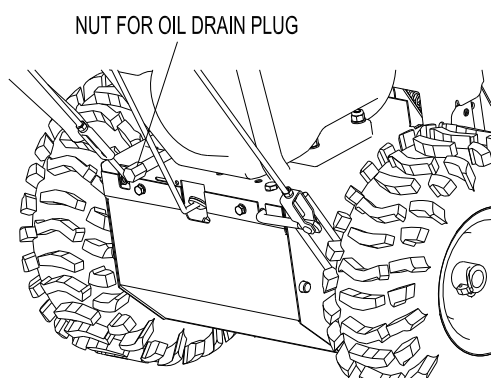

FIG 24
6.7.2 Remove the nut of the oil drain plug. (FIG 24)